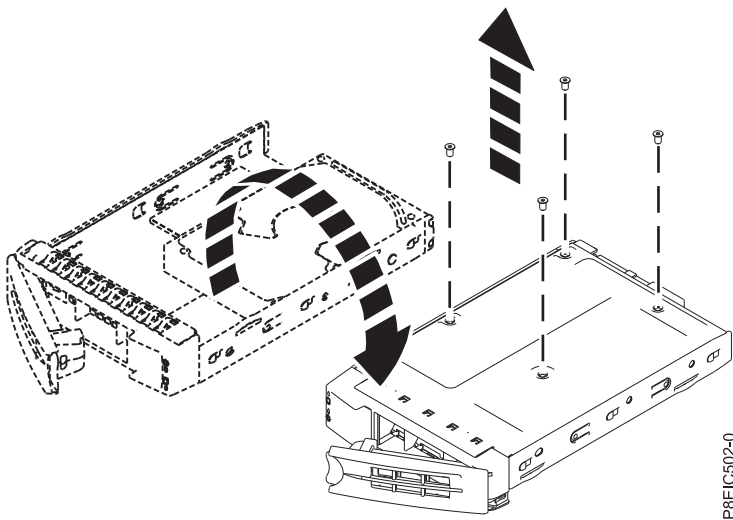

Figure 58. Removing the 2.5 inch drive from the tray
- For a 2.5 inch drive, turn the tray over. Unfasten the drive from the bottom of the tray by removing four screws, as shown in Figure 58.